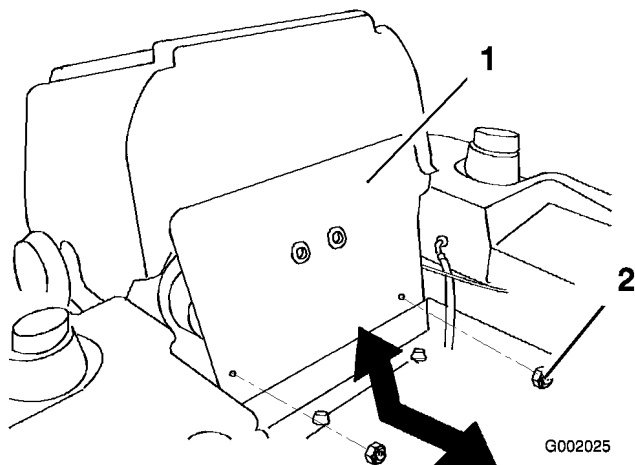

Figure 34
3. Tilt the seat forward and remove the front engine panel (Figure 34).